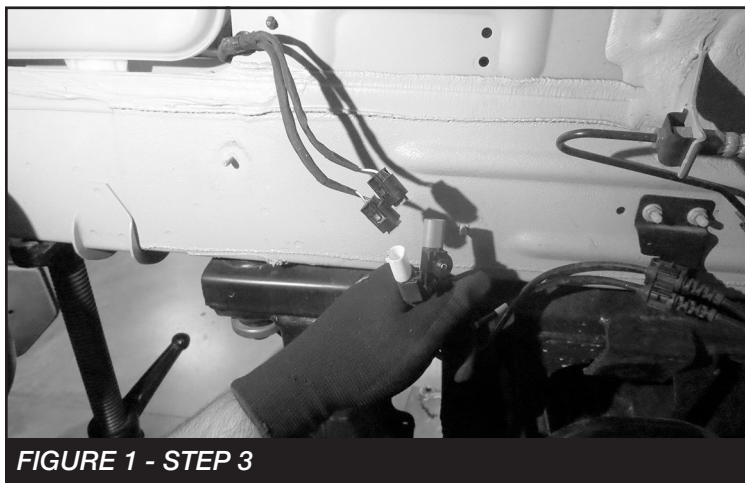

FIGURE 1 - STEP 3
3. Starting on the driver side disconnect the ABS wire connectors. **SEE FIGURE 1.**